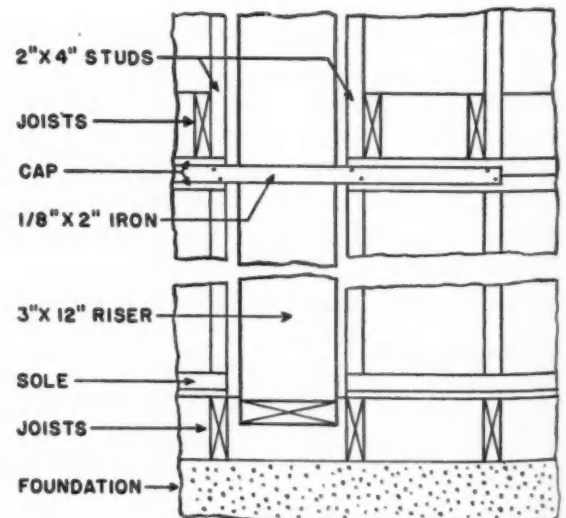

Figure 5. The Use of a Reinforcing Iron Plate where a Duct Cuts thru a Partition Cap.
4. Whenever the cutting of the main structure of the house is necessary for the reception of a riser or return, this member should be reinforced with a suitable iron band at least 2" x 1/8" securely fastened on each side of the plate and should extend at least one stud space on each side of the space or spaces which have been cut. See Figure 5. (Consult Local Building Code.)